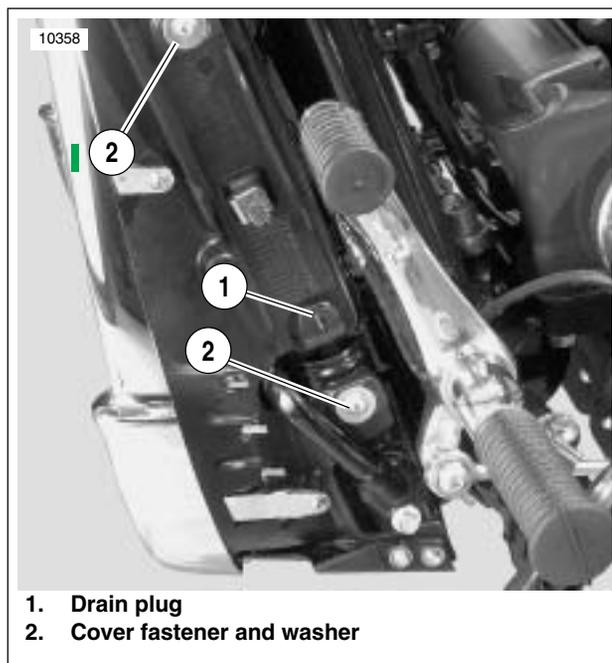

Figure 2-13. Radiator Cover Left Side
21. See Figure 2-13. Cover front fender with a shop towel or protective cover. On right side, pull rear brake fluid reservoir from radiator cover.
22. Remove two fasteners and washers (2) on each side of radiator cover and remove radiator cover. The radiator cover includes two chrome inlet bezels.
24. See Figure 2-13. Loosen but do not remove radiator drain plug. Orient radiator drain plug so that slot in threads is open to container.